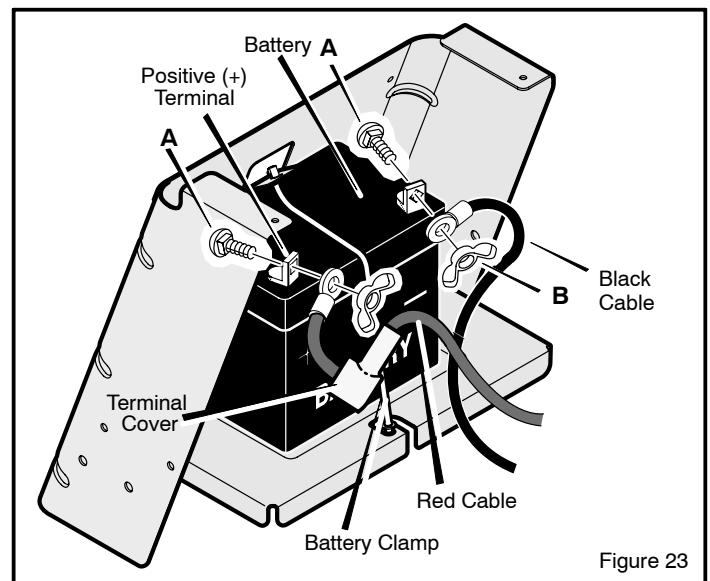

Figure 23
1. Disconnect the **black cable** from the negative (-) terminal (Figure 23).